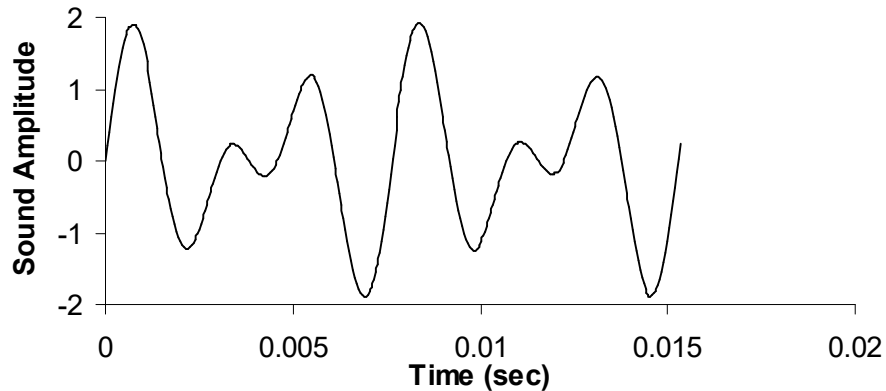

Figure 5.7. A simple chord mixing the notes C and G.
A chord is created by playing multiple notes simultaneously. When two piano keys are struck simultaneously both notes are created, and the sounds are mixed arithmetically. You can create the same effect by adding two waves together in software, before sending the wave to the DAC. You can produce this effect by using two interrupts and adding two waves together in software. Figure 5.7 plots the mathematical addition of a 262 Hz (low C) and a 392 Hz sine wave (G), creating a simple chord.